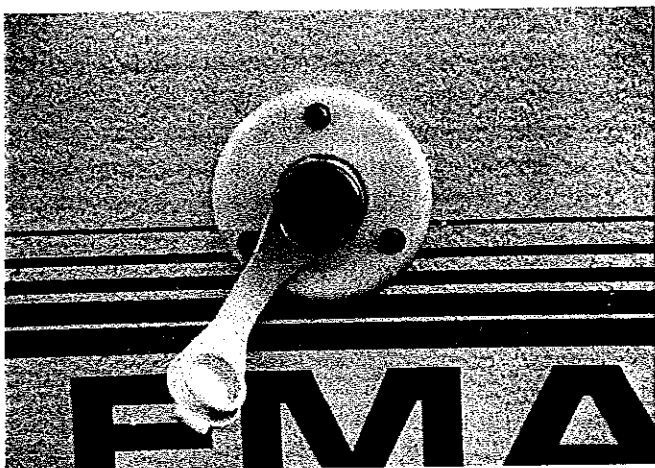

FIGURE 49
1. When the campsite provides a pressurized water system: Remove the protective cap from the external pressure water connector. See Figure 49. Attach a non-toxic garden hose (not furnished) between the external trailer connection and the campsite-furnished faucet.